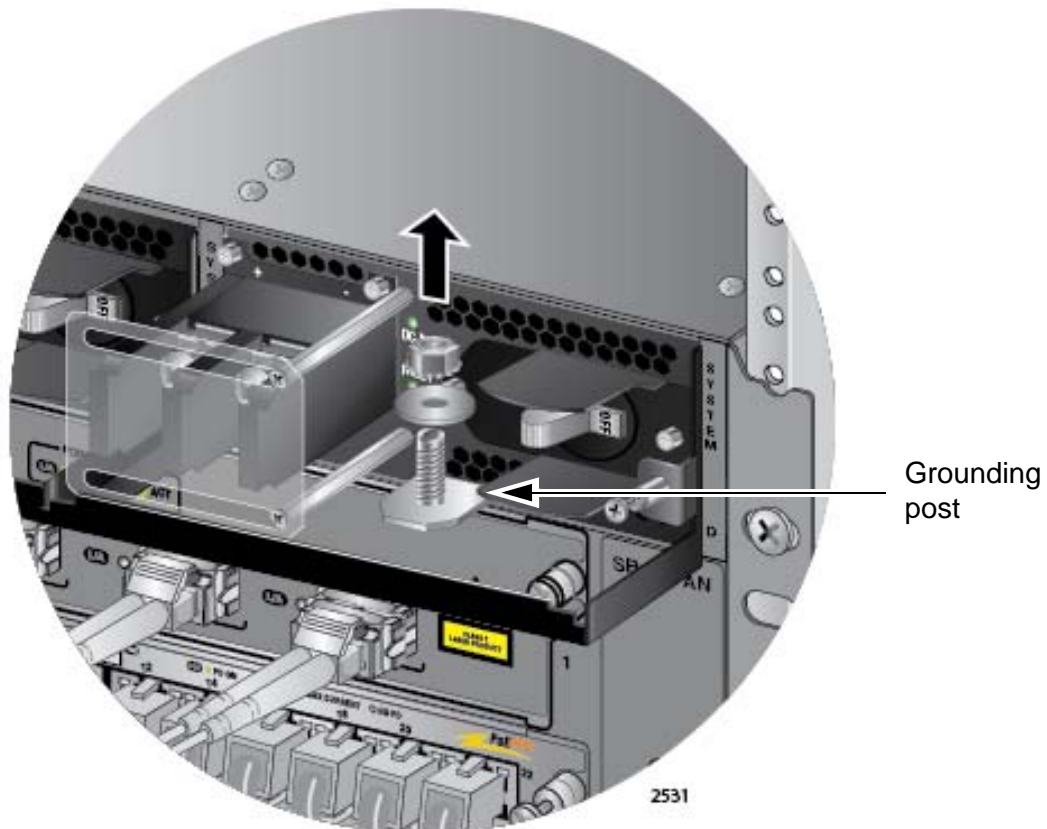

Figure 119. Removing the Nut and Washer from the Grounding Post
3. Use an 8 mm wrench to remove the grounding post nut and washer, shown in Figure 119, from the power supply.
2. Use an 8 mm wrench to remove the grounding post nut and washer, shown in Figure 119 on page 184, from the grounding post on the power supply.